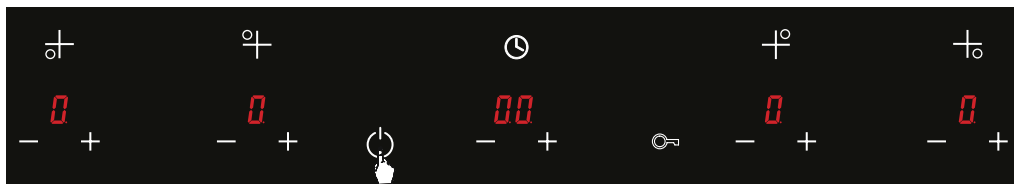

Figure 41
1. The appliance is switched on by pressing the  button. (See Fig. 41)